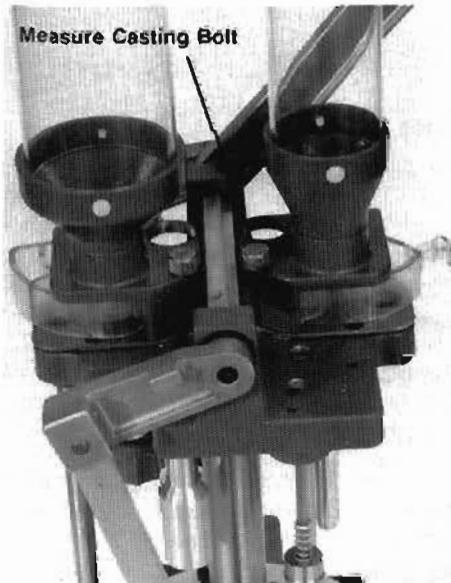

Fig. 7
**Figure 7** - Replace the measure mount bolt through the locating slot in the hopper casting and tighten. The shot charge bar should rotate freely. DO NOT FILL THE HOPPER WITH SHOT AT THIS TIME.